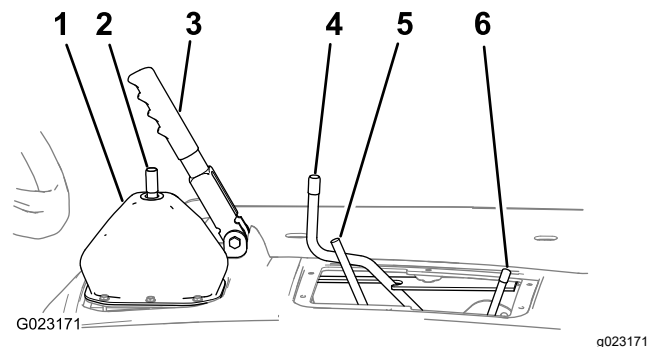

Figure 11
1. Engage the parking brake (Figure 11).
2. Move the differential-lock rod forward and to the right to lock it in the engaged position (Figure 11).